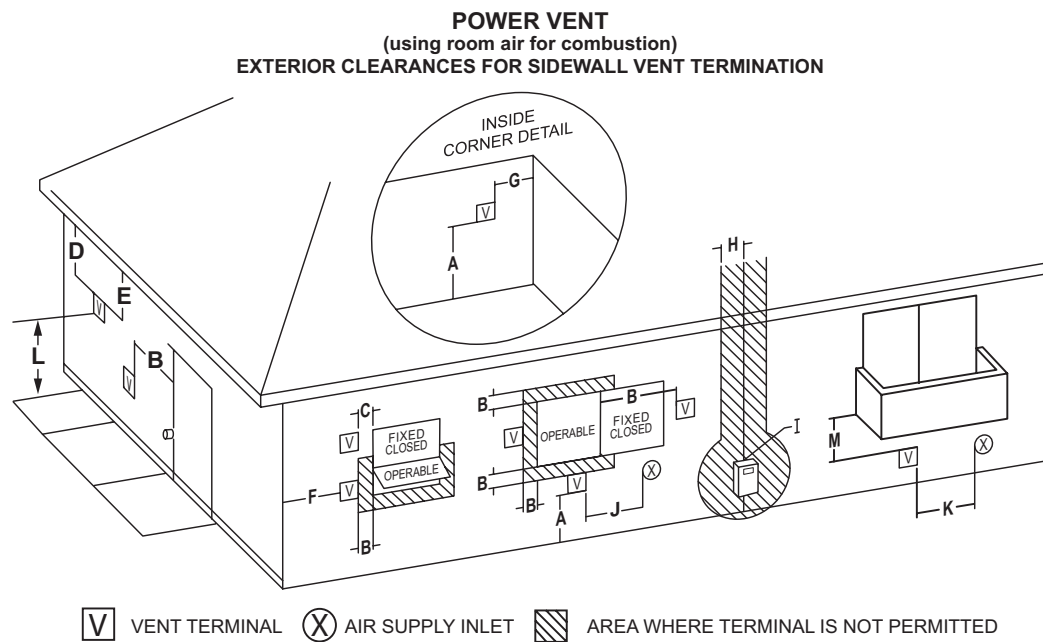
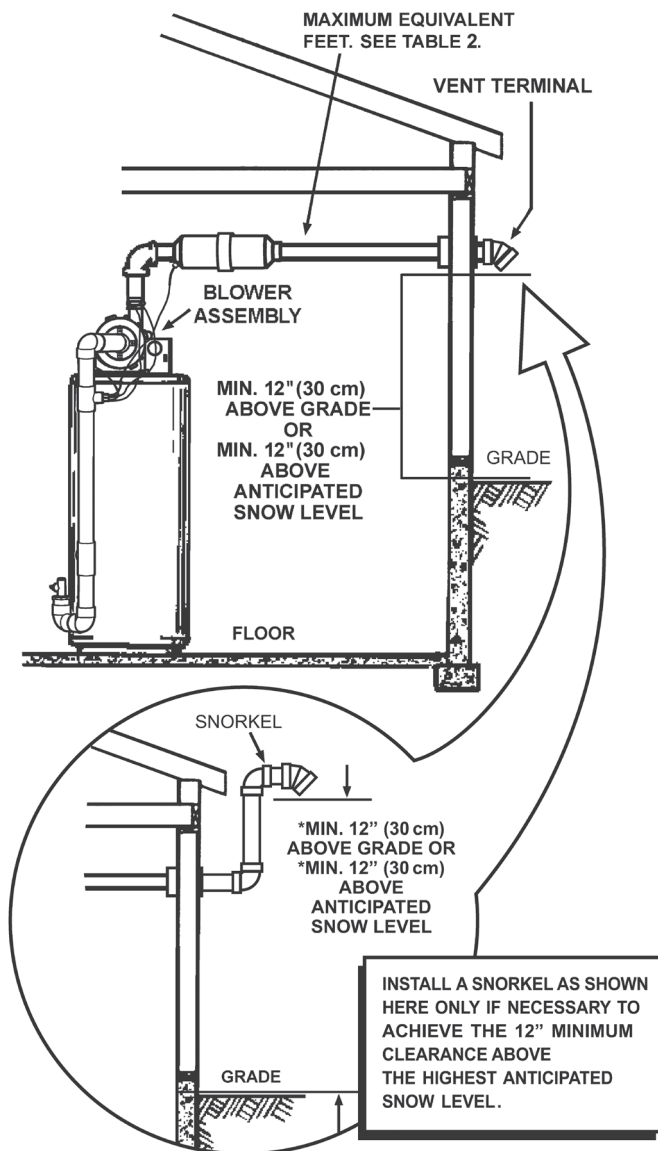

FIGURE 15.
FIGURE 20
The first step is to determine where the vent pipe will terminate. See Figures 15, 20 and 21. The vent may terminate through a sidewall as shown in Figure 20 or through the roof as shown in Figure 21.
Instructions on proper installation through a sidewall are provided in Figure 15.
If necessary to achieve the 12" minimum clearance above the highest anticipated snow level, install a snorkel as shown in bottom portion of Figure 20.
1. Vent Termination must extend a minimum of 12 inches (30 cm) above roof or 12 inches (30 cm) above the anticipated snow level to prevent blockage of the vent termination, as shown in Figures 20 and 21.